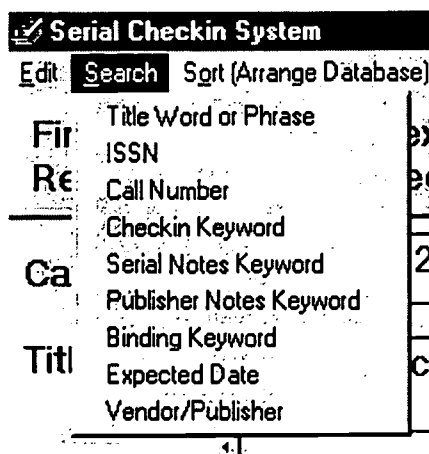

Fig. 2
The available search parameters from the pull down **Search** menu (Fig. 2) are:
1. Find the serial record through the **Serials Check-in Module** (Fig. 1) search options. This is usually easiest by using the Title Keyword or ISSN search option (Fig. 2).
1. Using the **Search** (Fig. 2) functions in the **Serials Check-in Module** (Fig. 1), pull up the correct serial record for the issues that are going to be bound.
1. Using the **Search** (Fig. 2) functions in the **Serials Check-in Module** (Fig. 1), pull up the correct serial record for the newly bound issues that have been returned.